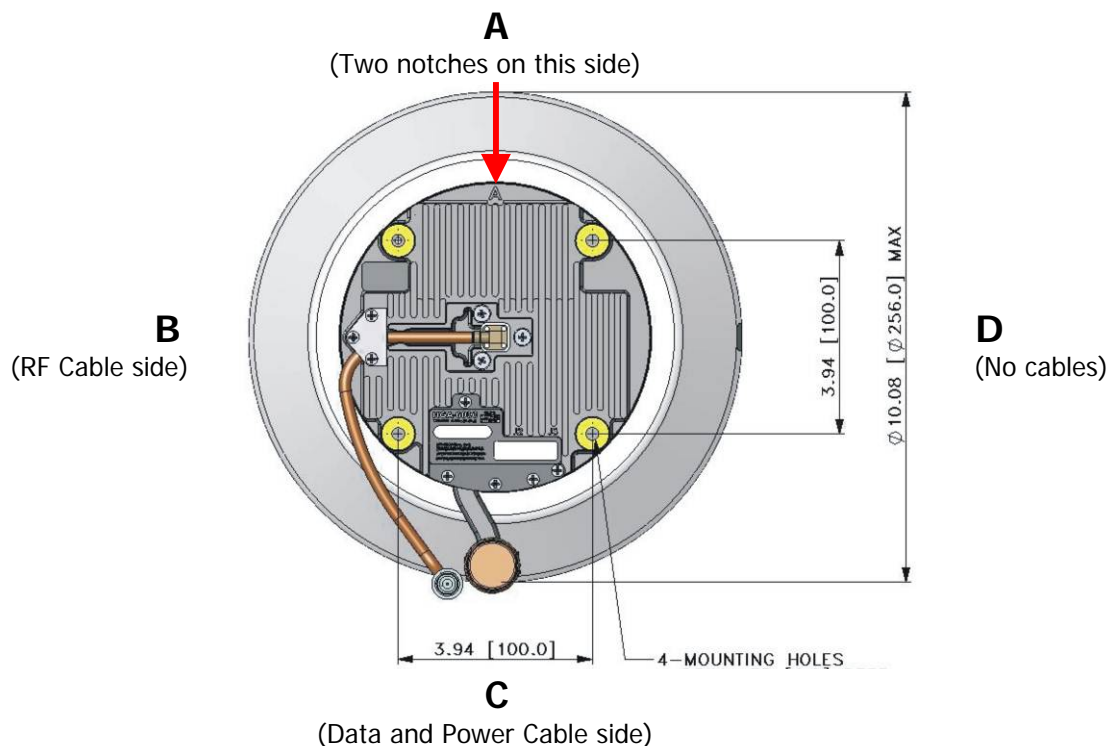

Figure 7 : HGA-6000 Alignment marking from the base of antenna
- 2) The HGA-6000 is fixed to the mounting plate/structure by means of four ¼ inch 28UNF screws which screw into the base of the antenna from below. A locking wire thread insert in each of the four mounting holes will ensure that the screws remain secure. The mounting hole specifications are provided in Section 3.2.1, as well as in Figure 7.
- 2) Align the HGA-6000 mounting plate holes with the mounting holes on the aircraft. Insert the mounting bolts and torque down evenly. (Refer to hole tolerances given in Figure 7 in case Cobham mounting plate is not used)